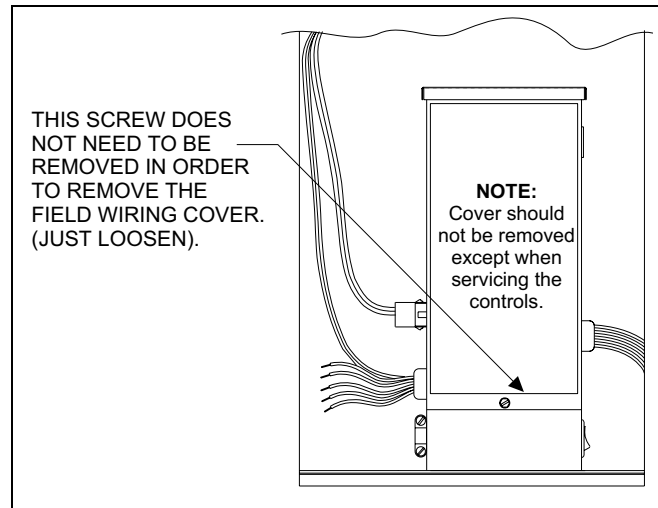

FIGURE 16 : Field Wiring
2. Insert 115 volt wires through the large plastic bushing on the left side of the furnace (See Figure 16). If conduit is used it should be secured to the control box.